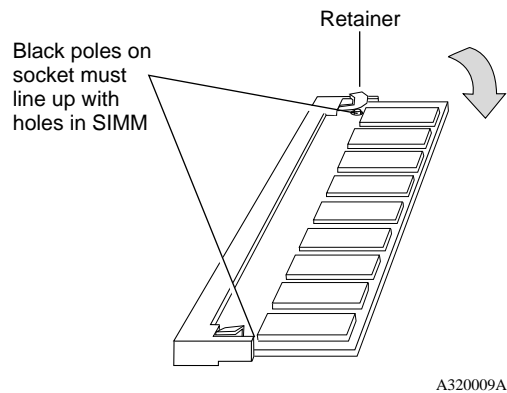

Figure 5. Locking a SIMM in Place
3. **Gently push down on the module so that the retainers grasp the SIMM, locking it into place (Figure 5).**